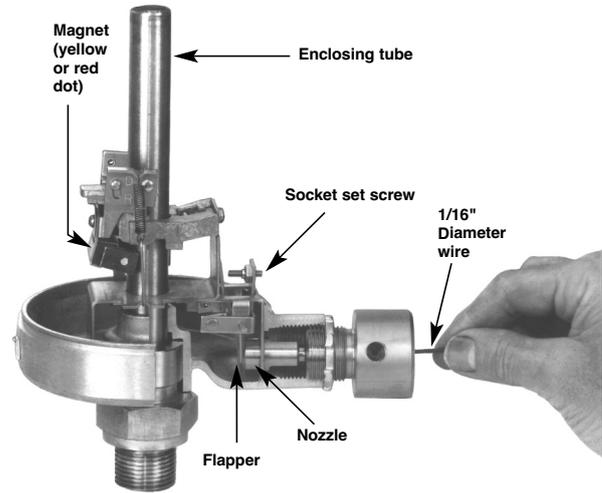

Figure 6
4. Insert a 1/16" diameter wire into the nozzle from the air line connection side. Refer to Figure 6. The wire may be moved back and forth to clean the opening of any accumulated matter.